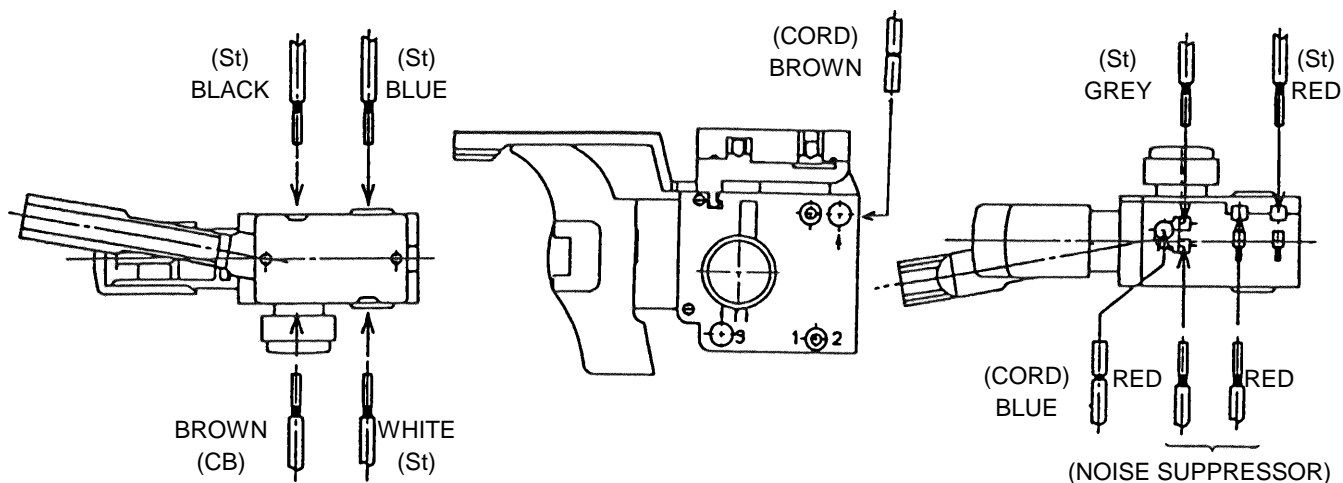

Fig. 4 FDV 12V and FDV 15V Wiring Diagram
(1) Wiring:
Connect the Internal Wires of the Noise Suppressor, Stator ①⑤ (①⑥), and Cord to the Switch ②④ (②⑤) as illustrated in Fig. 4. (For further details, please refer to the wiring diagrams in Paragraph 2-5.)